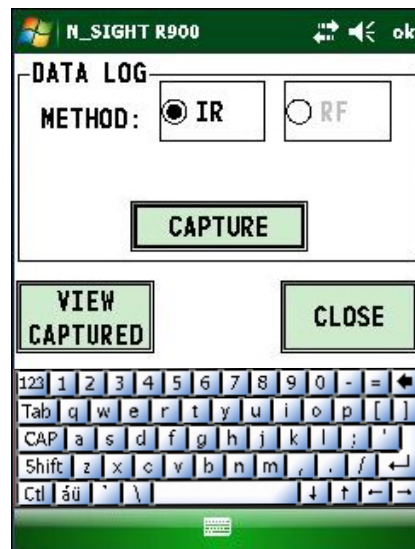

Figure 7.8 Data Log IR Method Selection
- 2 Select **IR**. See Figure 7.8.